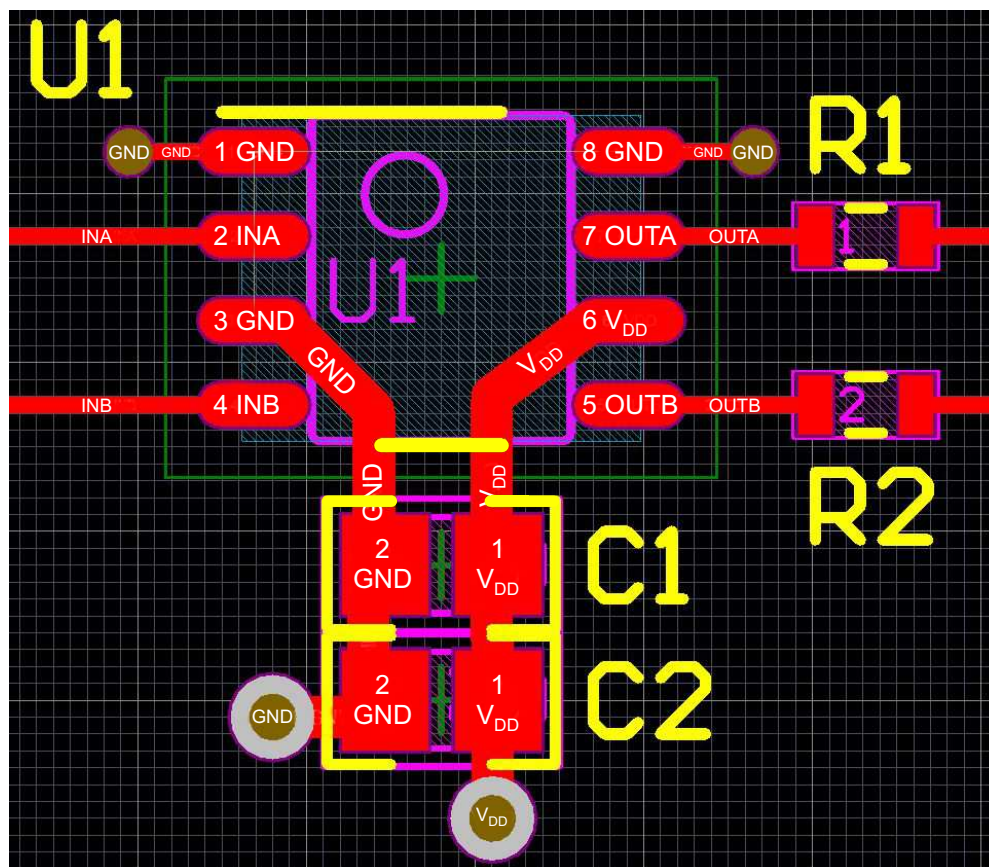

Figure 12. UCC27324-Q1 Layout Example
- Locate the V_{DD} bypass capacitors between V_{DD} and GND as close as possible to the driver with minimal trace length to improve the noise filtering. Place these capacitors as close to each other as is allowed, as shown by C1 and C2 in Figure 12 which ensures minimal trace inductance and gives the effect of a *capacitor bank*. These capacitors support high peak current being drawn from V_{DD} during turn-on of the power MOSFET. The use of low inductance surface mount components is highly recommended.